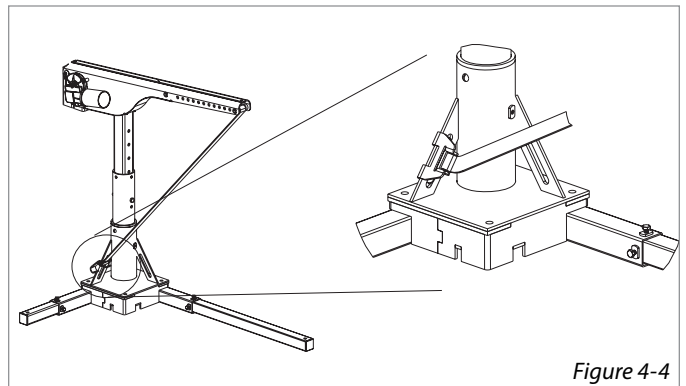

Figure 4-4
**NOTE:** The AL215 is manually rotated and does not have a lock to keep it from rotating. In order to prevent it from moving when not in use, we recommend that the strap be run down by holding the DOWN button until the hook has reached the gusset nearest the side wall of the vehicle. Latch the hook on the gusset and press the UP button until the strap is taut, as shown for passenger side applications. [Figure 4-4]